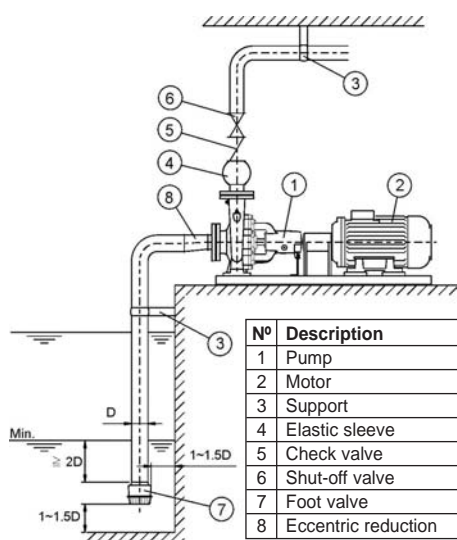

Fig. 1
**(5)** Installations with suction lift (see Fig. 1):